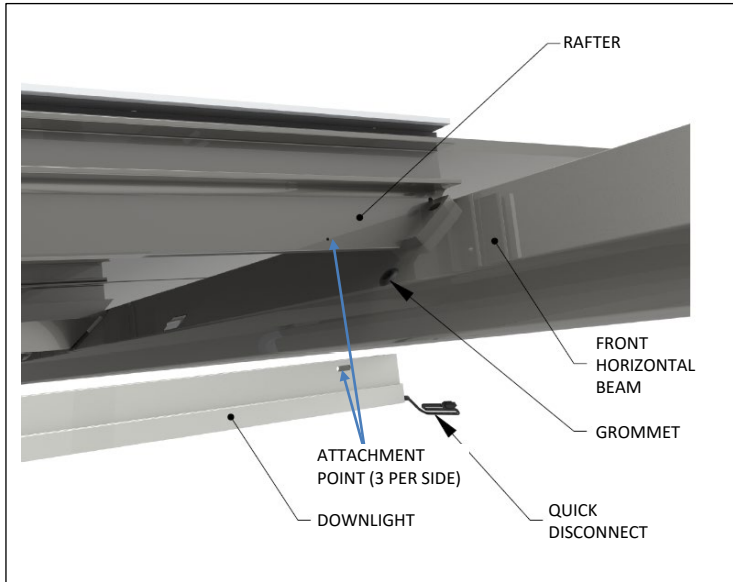

Fig. D4 – install rafter light
2. First rafter downlight: make connection at front horizontal to quick disconnect. Run 16 gauge jacketed cord from rear right upper corner along bottom of rafter. Push cord through grommet, along with rafter light connection. See Fig. D4. Using a 3/32" hex key, attach downlight to rafter using (6) #8-32 x 5/16 socket button head cap screws, located in hardware pack #62599. Do not overtighten screws.
3. Install remaining rafter downlights: make connection to quick disconnects. Push connection through nearest grommet on front horizontal beam. Attach downlight to rafter, see Fig. D4.